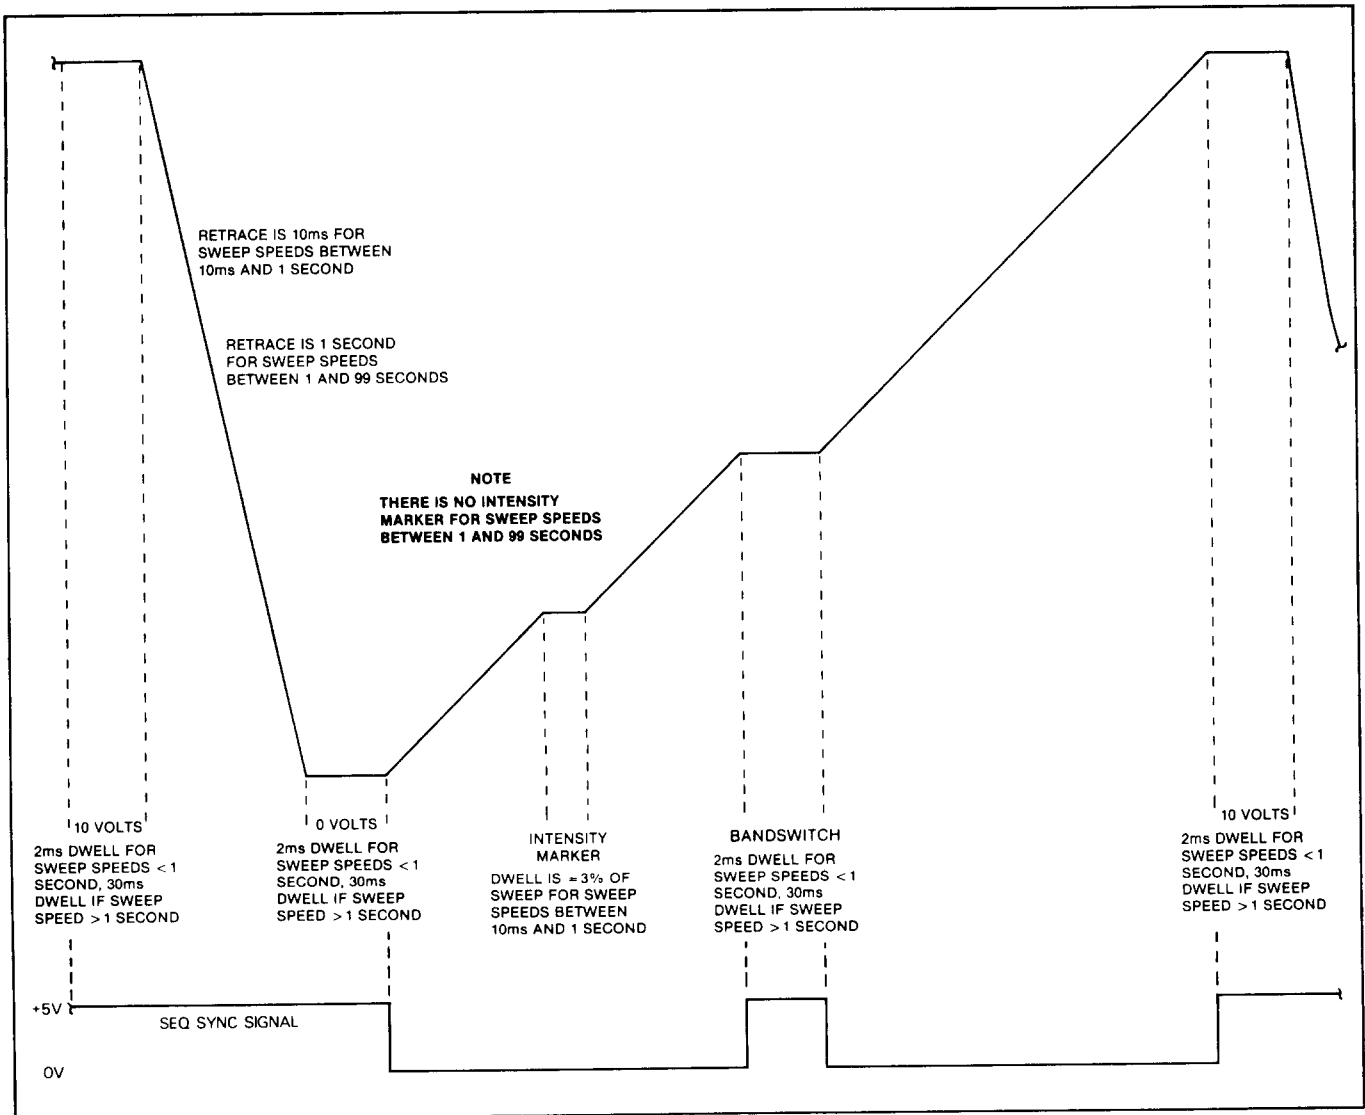

Figure 7-27. A2 PCB Sweep Ramp and Sequential Sync Pulse
a. Ramp Generator. This functional block produces the PCB sweep ramp output signal and the two retrace blanking pulses that are supplied to the **RETRACE BLANKING (+)** and **(-)** rear panel connectors. The block also provides control for the relay connected to the rear panel **PENLIFT OUTPUT** connector. The input to this functional block is the front panel **SWEEP TIME** control group from the A12 Microprocessor PCB. Eight bits of this nine-bit group are latched into the digital-to-analog converter (DAC) circuit (U15) when the microprocessor clocks **SP13 HIGH**. The DAC output is a negative voltage that causes the Sweep Ramp Integrator (U20B) to integrate in the positive direction. When the sweep ramp reaches 10 volts, the 10V Compare circuit (U25B, U25C) causes the Sweep Direction and Dwell Gating circuit (U24A, U24B, U2A, U2B, U17C) to open Switch A and close Switch B. This switching action causes the integrator to integrate in the negative direction (retrace) at a fixed rate (10 ms for sweep speeds between .010 and 1 second, 1 second for sweep speeds between 1 and 99 seconds). When 0 volts is reached, the 0V Compare circuit then causes Switch B to open and Switch A to close. This Switch A/Switch B arrangement reconfigures the integrator to again integrate in the positive direction. A typical sweep ramp waveform is shown in Figure 7-27.
The related circuits in this block are the Seq Sync Logic (U23B, U5D, Q4) and the Bandswitch Blanking (Q5, Q6) circuits. The Seq Sync Logic circuit outputs a +5V pulse (Figure 7-27) during an oscillator bandswitch, 0- and 10-volt dwell periods, and sweep ramp retrace. This pulse goes to the A1 PCB (H SEQ) and to the rear panel SEQ SYNC connector.